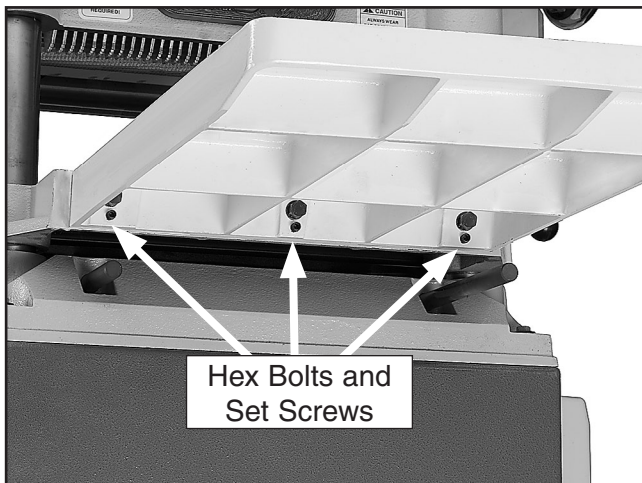

Figure 6. Extension table attached to bed.
1. Attach the extension tables to the planer table with the hex bolts, as shown in **Figure 6**, but do not fully tighten the bolts at this time.
2. Insert the set screws into the locations shown in **Figure 6**.